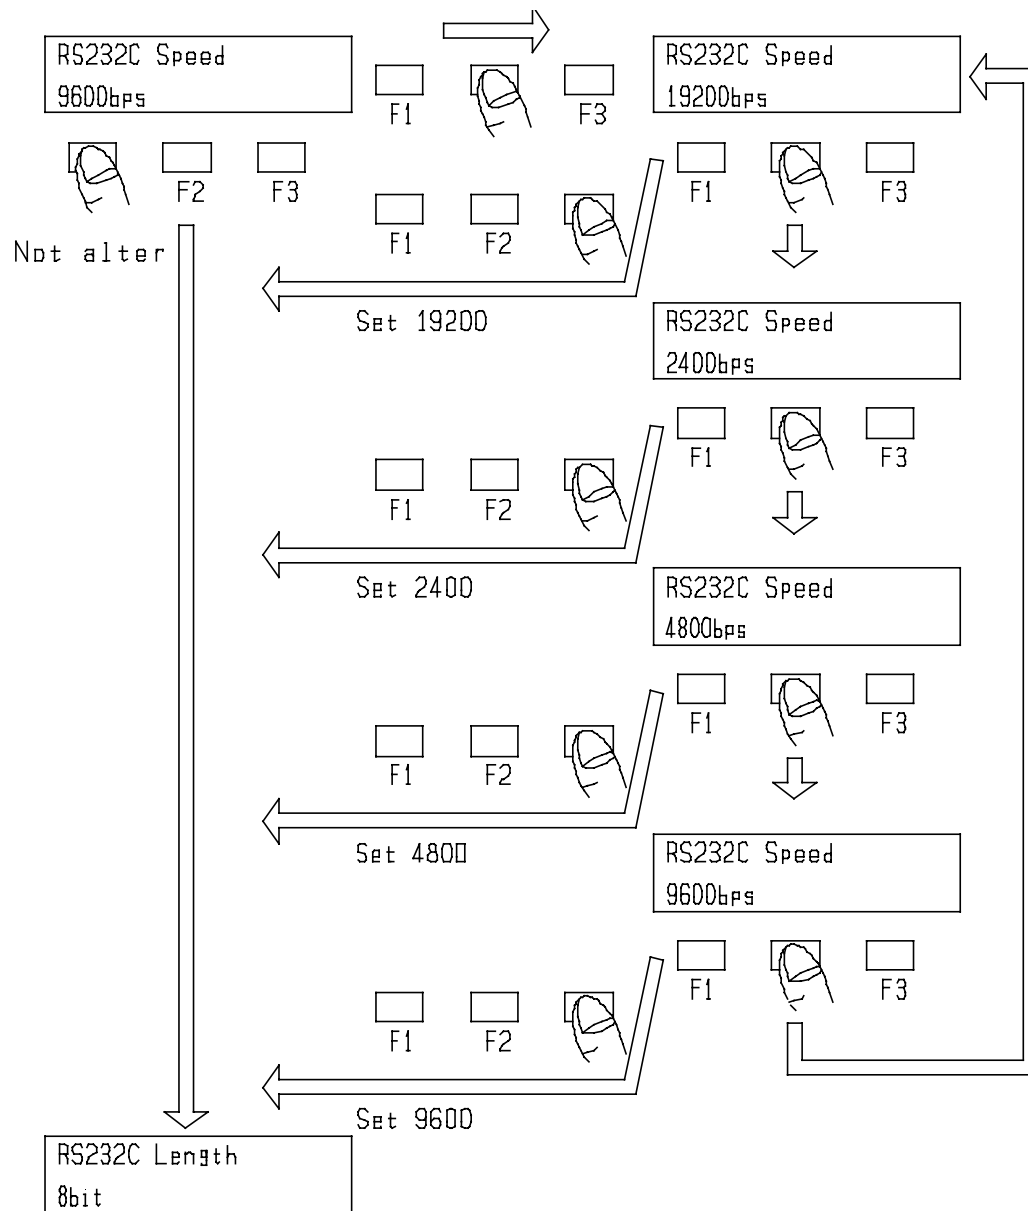

Figure 5 Details of data setting
- 3) The value of the parameter changes every time the "F2" button is pushed. Select the value to set (figure 5).